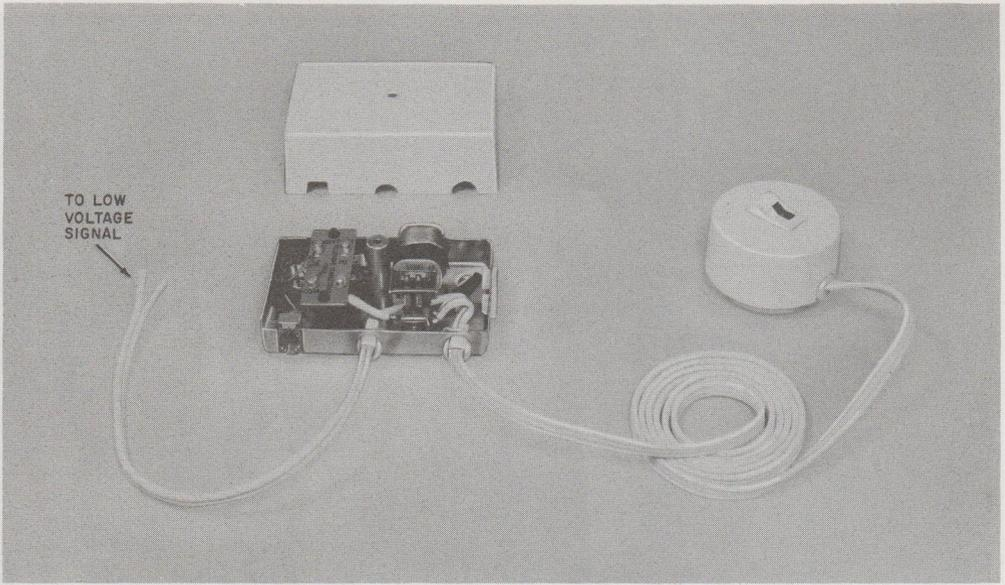

Fig. 12—KS-20614, List 2 Relay Switch
3.12 KS-20614L2 Relay Switch (Fig. 12 and 32):